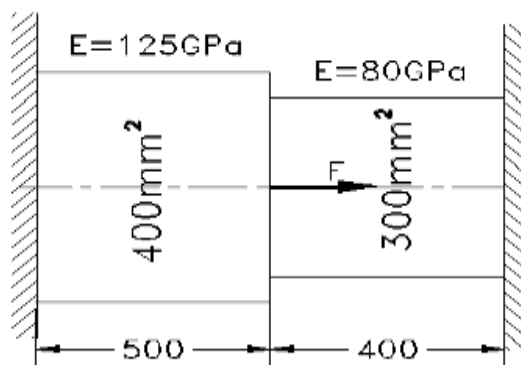

Figure 3
- (c) For a compound section shown in figure 3 below, determine the nodal displacements and stresses in each element when a force $F=1600 \text{ N}$ is applied at the change of cross section. Use Penalty approach to solve the problem. 07